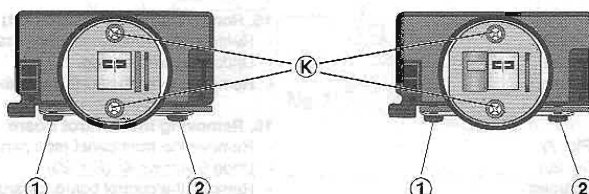

Fig. 14
- 2 Schrauben K herausdrehen und den Tonkopf herausnehmen (Fig. 14).
- Undo 2 screws K and remove the sound head (Fig. 14).
- Fit the new sound head and re-assemble in reverse order. The head screws ① and ② are provided for adjusting the head gap (azimuth) and must not be tightened completely. Adjustment of the head gap, see **Adjustments**.